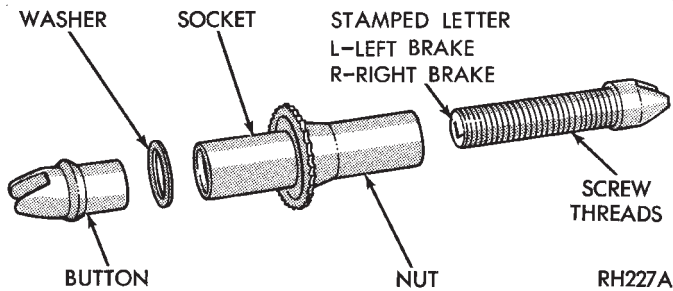
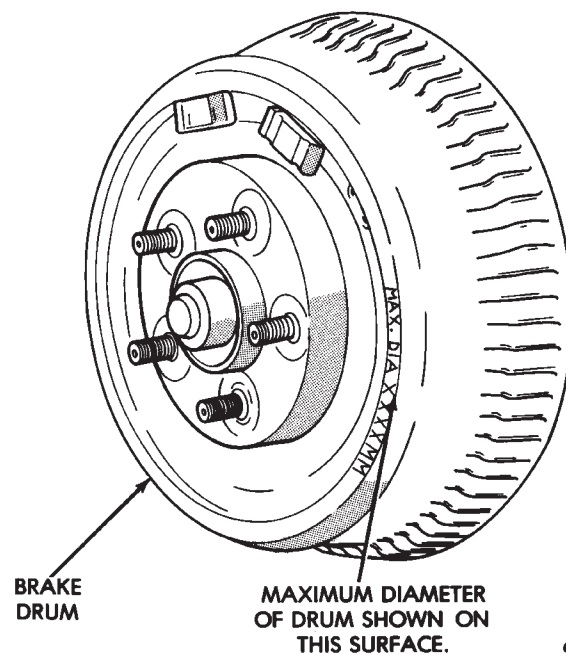

Fig. 8 Adjuster Screw Assembly
Fig. 1 Drum Maximum Diameter Identification
Clean the brake support plate, using a suitable solvent. Then inspect for rough or rusted shoe contact areas. Clean and inspect the adjusting screws for damaged threads. Apply a thin film of lubricant such as Mopar® Multi-Purpose Lubricant or equivalent to the adjuster threads, socket and washer (Fig. 8). Replace adjuster screw assembly if corrosion of any part inhibits very free operation.
(7) Insert protruding hole rim of cable guide (Fig. 1 or 2) into hole in secondary shoe web. Holding guide in position, engage secondary shoe return spring through both, hole in guide, and hole in web. Using Installer, Special Tool C-3785, install spring over anchor (Fig. 3). (Be sure cable guide remains flat against shoe web and that secondary spring overlaps primary Fig. 1 & 2). Using pliers, squeeze ends of spring loops (around anchor) until parallel.
(8) Install adjuster screw assembly (Fig. 8) between primary and secondary shoes, with star wheel of adjuster screw assembly next to secondary shoe (Fig. 1 & 2). The left star wheel adjusting stud end is stamped (L) (indicating its position on the vehicle) and the star wheel is cadmium plated (Fig. 8). The right star wheel is black and the adjusting stud end is stamped (R). Install shoe to shoe spring between shoes (Fig. 1). (Engage primary shoe first).
(9) Install adjusting lever spring (Fig. 1 & 2) over pivot pin on shoe web. Install adjusting lever under spring and over pivot pin. Slide lever slightly rearward to lock in position.
(10) Thread adjuster cable over guide and hook end of overload spring in lever (Fig. 1 & 2). (Be sure
All drums will show markings of maximum allowable diameter (Fig. 1). For example, a drum will have a marking of MAX. DIA. 231.0 mm (9.09 inch). This marking includes 0.76 mm (0.030 inch) for allowable drum wear beyond the recommended 1.52 mm (0.060 inch) of drum refacing.